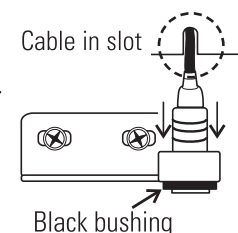

Figure 5-13. Bushing
19. Match the pins on the yellow connector with the socket on the door. Press the connector completely into the socket and slide the strain relief down until no yellow is visible on the plug (Figure 5-13).